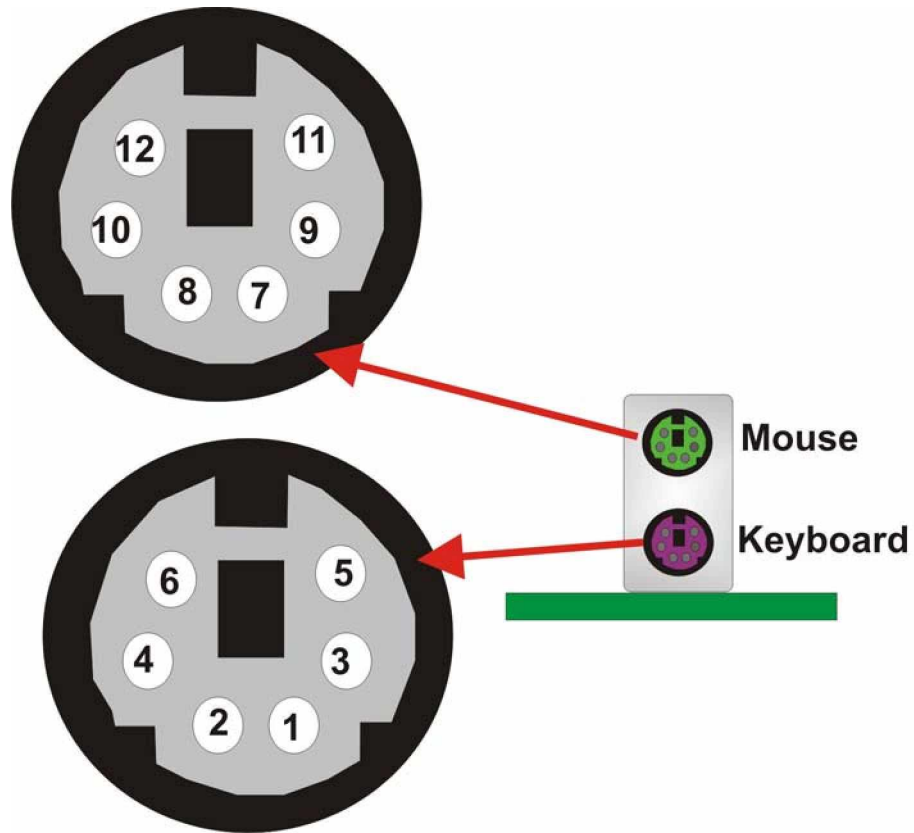

Figure 3-19: PS/2 Pinouts
- CN Pinouts:** See Figure 3-19 and Table 3-20